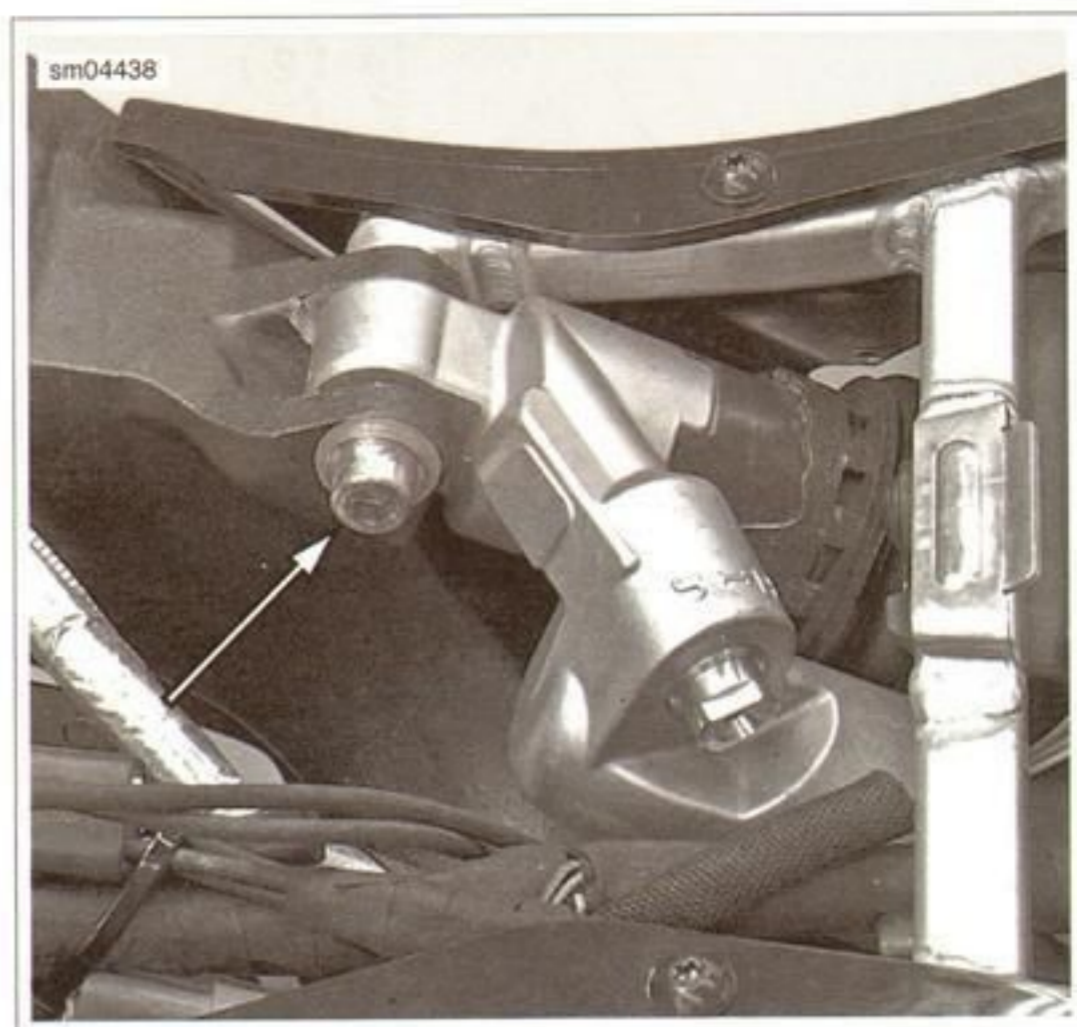

Figure 2-105. Upper Shock Mount
5. See Figure 2-105. Remove upper shock mount fastener and washer.